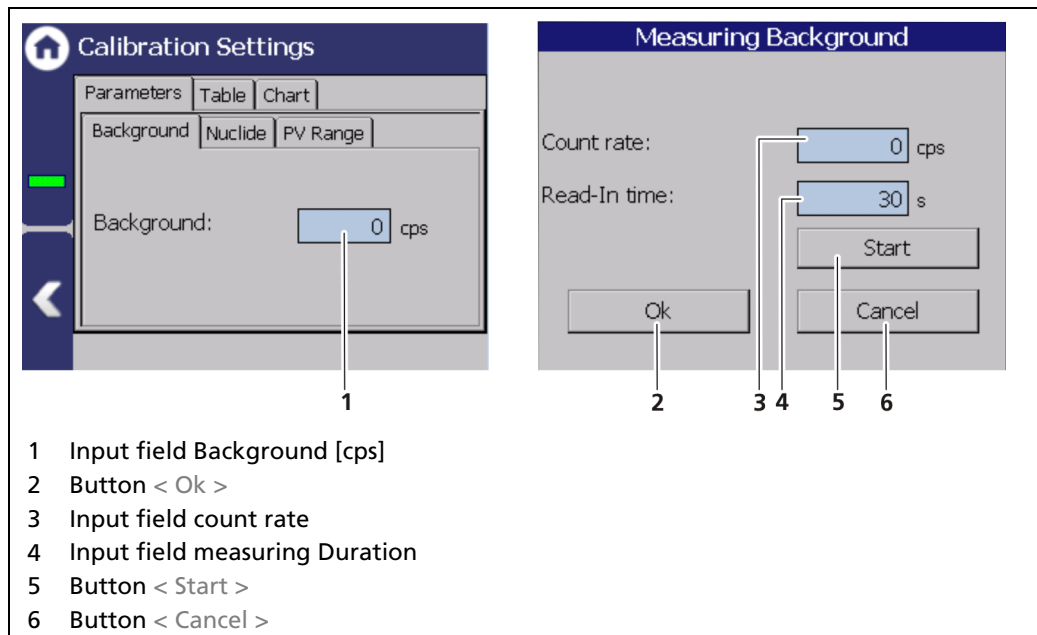

Fig. 76 Calibration parameters: Background
The background count rate (Fig. 76, item 1) is the natural background radiation seen by the detector and must be measured at least for rod detectors. This count rate is compensated for by the system. The best approach for your background measurement is dependent on the situation on site and on the type of radiation source.
1. Click on the text field "Background" (Fig. 76, item 1).